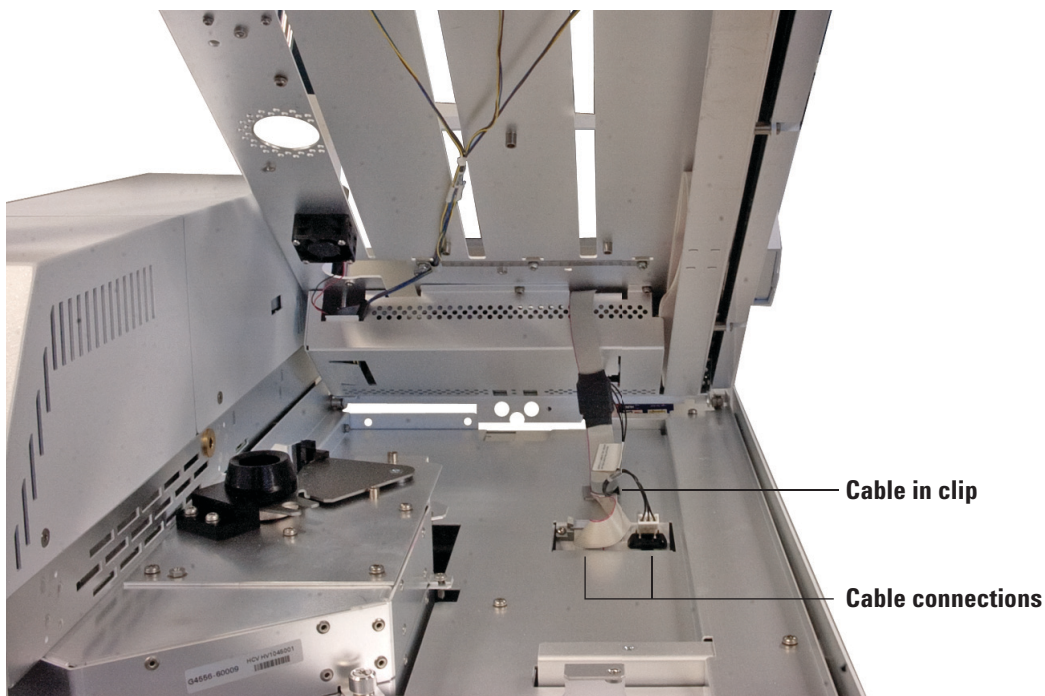

Figure 4 Tray cable connections
- 1 Lift the front of the tray assembly up and disconnect the two cable connections underneath the tray (Figure 4).